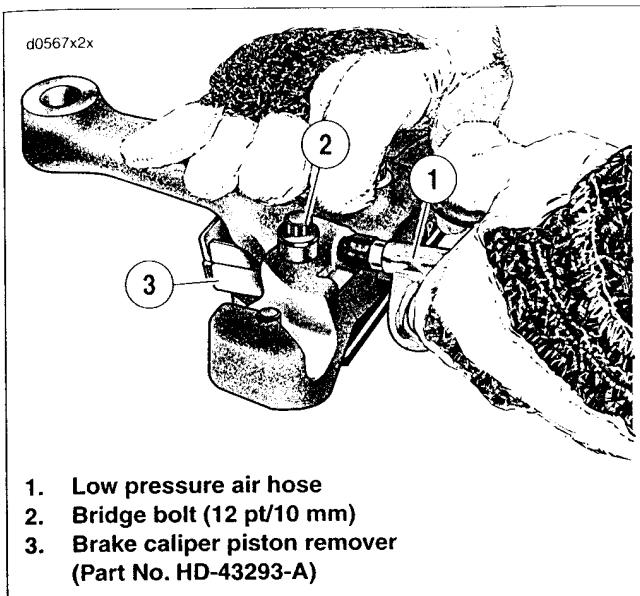
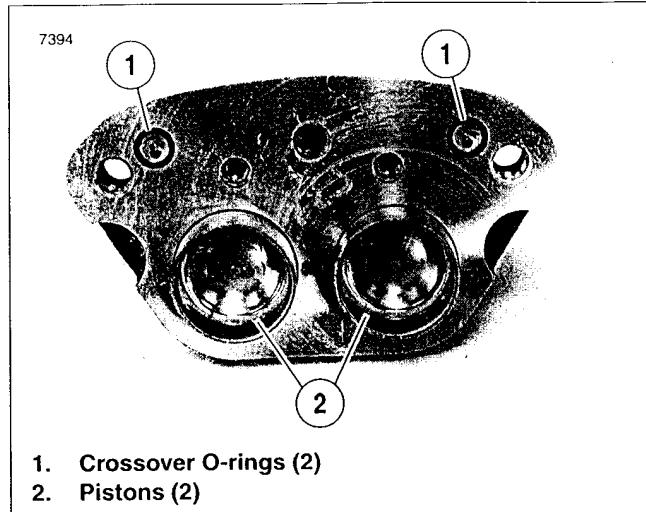

Figure 2-80. Removing Pistons
Figure 2-81. Crossover O-rings and Inside Housing
4. See Figure 2-80. Remove pistons.
- a. Place BRAKE CALIPER PISTON REMOVER (3) (Part No. HD-43293-A) between caliper housings.
- b. Insert three bridge bolts (2) (12 pt/10 mm) and tighten securely.
- d. Apply low pressure compressed air (1) to banjo bolt hole to remove pistons from caliper bores.
5. See Figure 2-81. Remove and discard both crossover O-rings (1) from inside caliper housing.
6. If necessary, wiggle pistons (2) from caliper bores to completely remove.
4. See Figure 2-81. Place two new crossover O-rings (1) on inside caliper housing.